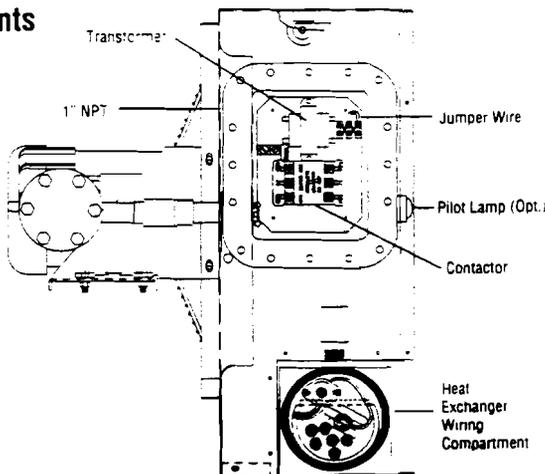
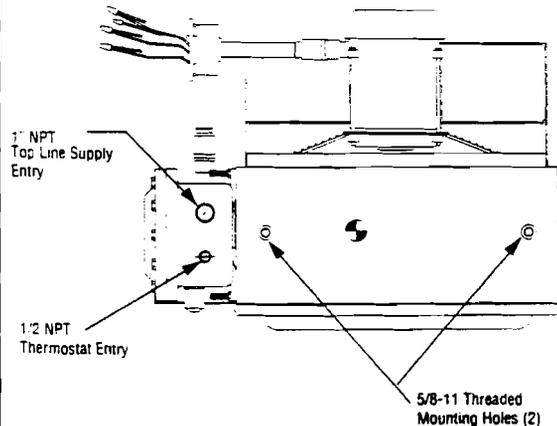

Figure 9
Figure 10
1. Loosen and remove bolts securing the main terminal enclosure cover on side of unit. Connect heater to line supply wires at the box lugs located on the contactor according the voltage and frequency specified on the nameplate (see Figure 9). Refer to the appropriate wiring diagram which also appears on the inside cover of this enclosure (see Table B and diagrams on page 6).
5. Either of two 1/2 NPT rigid conduit openings with integral stops may be used for connection to supply line. (See Figure 9 and 10 for locations) Use only NEC approval hazardous locations means of wiring such as mineral insulated cable and fittings or rigid conduit and seal fittings located as required by installation codes.
8. To operate heaters from an externally mounted hazardous location thermostat, a terminal block is provided for connection (Figures 9 and 10). Remove the factory installed jumper across T2 and T3 on the terminal strip. Wire the thermostat contact leads to these terminals. The built in control transformer supplies the unit with either 24V or 120V for internal unit operation. This voltage will appear across the thermostat contacts when they are open. The minimum thermostat contact rating should be 1 amp @ 120 VAC. Refer to nameplate for control voltage of unit. The 1/2 NPT conduit wiring entry on top of the terminal enclosure should be used to wire the thermostat to the heater (Figure 10).
9. Protection against overheating is provided by an internal thermal cutout located within the heat exchanger wiring compartment. (Figure 9) Activation of the cutout will open the control circuit and energize the pilot lamp (if supplied). If normal airflow is restricted, or stopped, the unit will be cycled off by the manual reset cutout. The manual reset cutout is also designed to shut down the unit completely if the fluid level is low or other heater malfunction occurs.